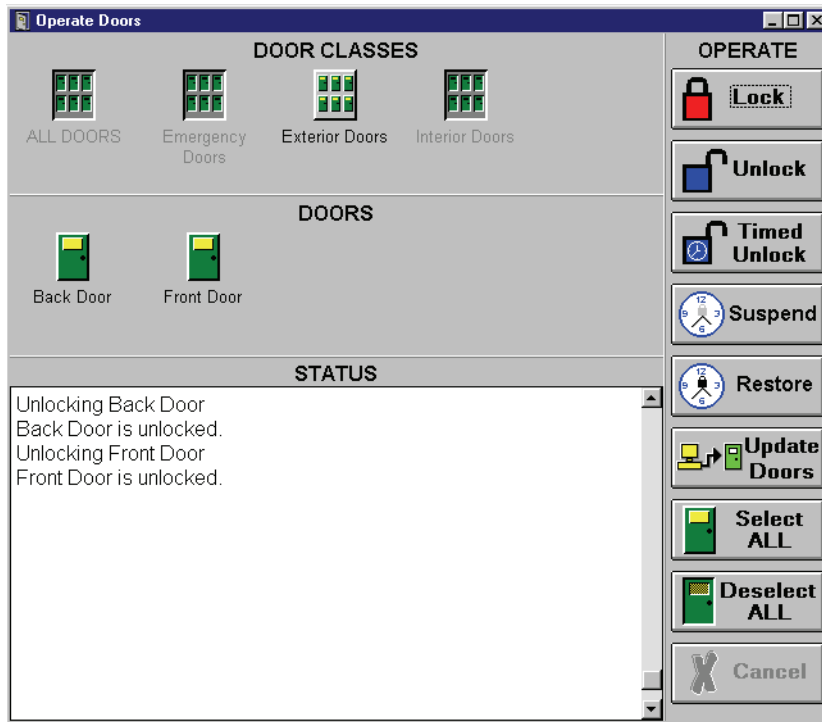

Figure 6-6: Unlocking All Doors in a Door Class
2. Click on the  button, and then click on the  button. The resulting window will look similar to Figure 6-6.